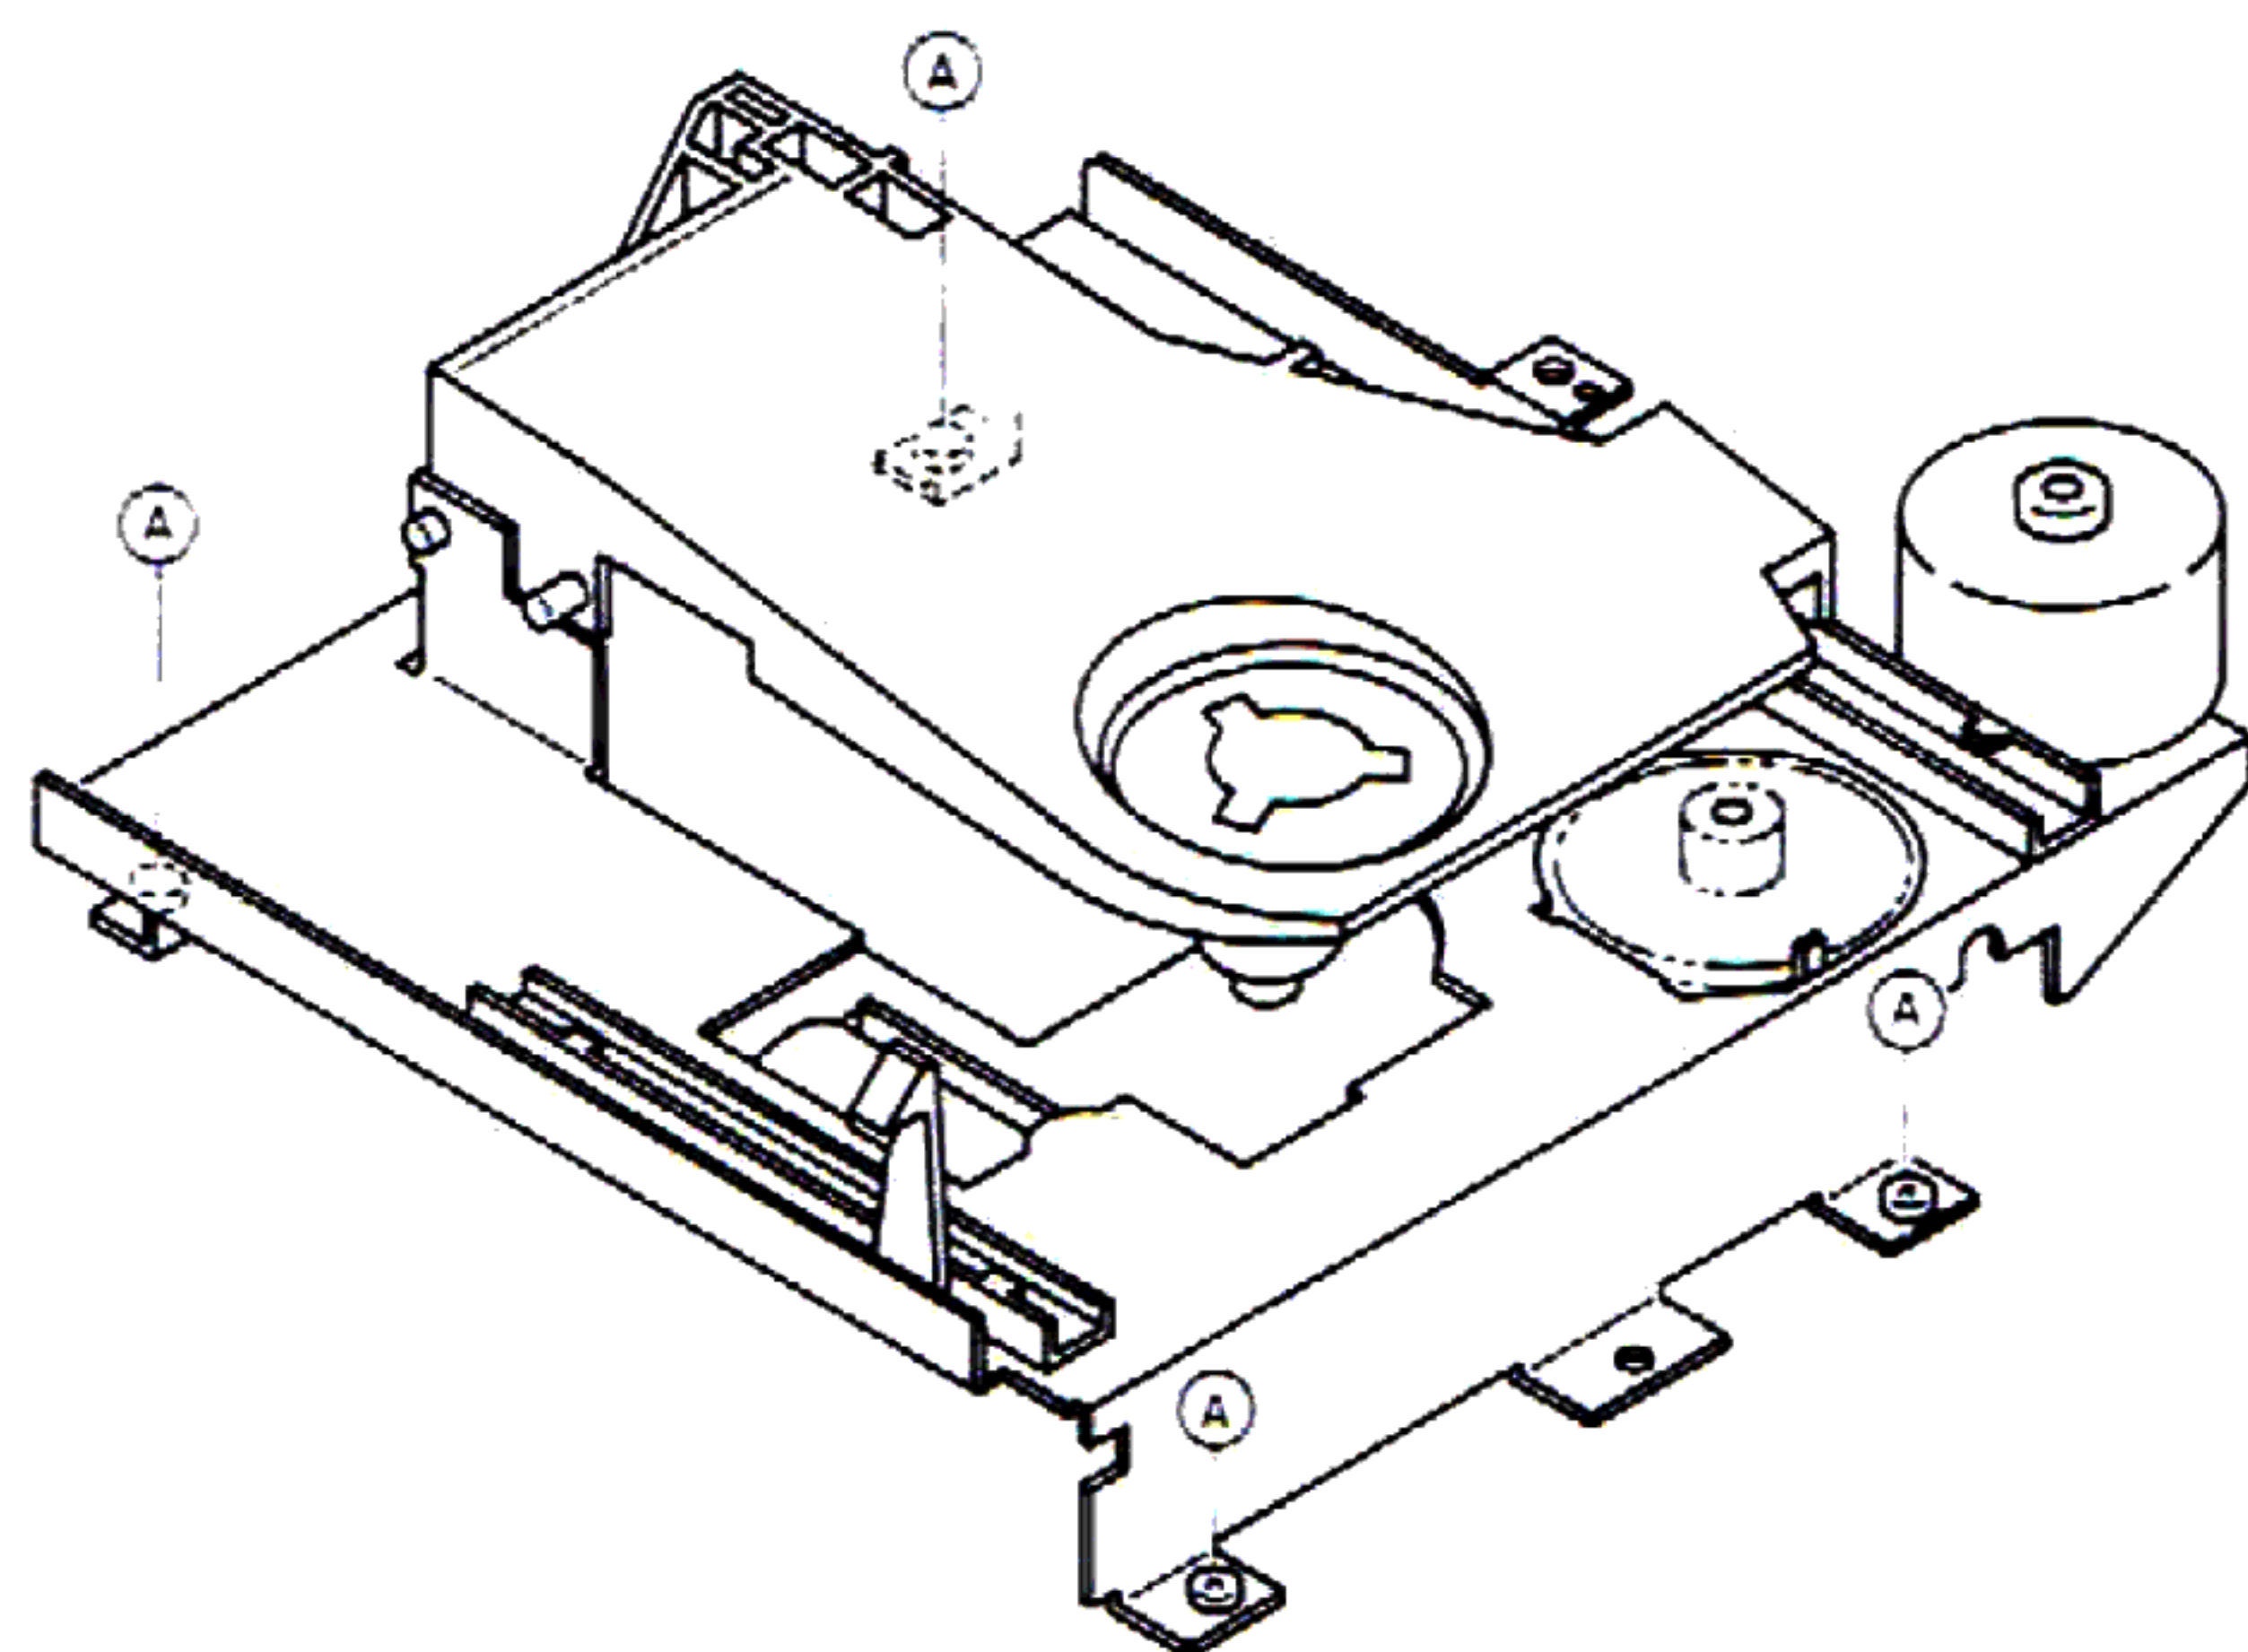

Fig. 4-2
- 2) Remove four Mecha chassis fixing screws (A). (Refer to Fig. 4-2)